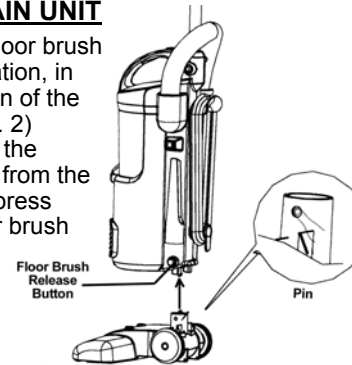

Fig. 2
- Insert the floor brush into its location, in the direction of the arrow. (Fig. 2)
- Press the floor brush release button to remove the floor brush. (See Fig 2 page 4)